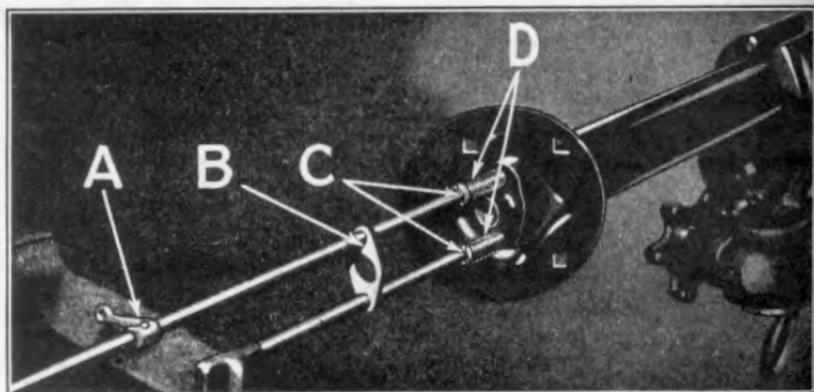

Fig. 389
- 751 Remove throttle rod lever by driving out throttle rod lever pin, (See "A" Fig. 389) and slipping lever off over end of rod.
- 762 Insert the two lead and throttle rod springs over ends of lead and throttle rods positioning springs against end of tubing as shown at "D" Fig. 389. Insert lead and throttle rod collars over ends of rods and position them against springs.
- 763 Compress collars and springs until lead and throttle rod pins can be inserted through rods (See "C" Fig. 389).
- 764** Position lead and throttle rod guide on rods as shown at "B" Fig. 389.
- 765** Insert throttle rod lever on throttle rod. Line up pin hole in lever with pin hole in rod and insert pin through lever and rod; the ends of the pin are then riveted (See "A" Fig. 389).